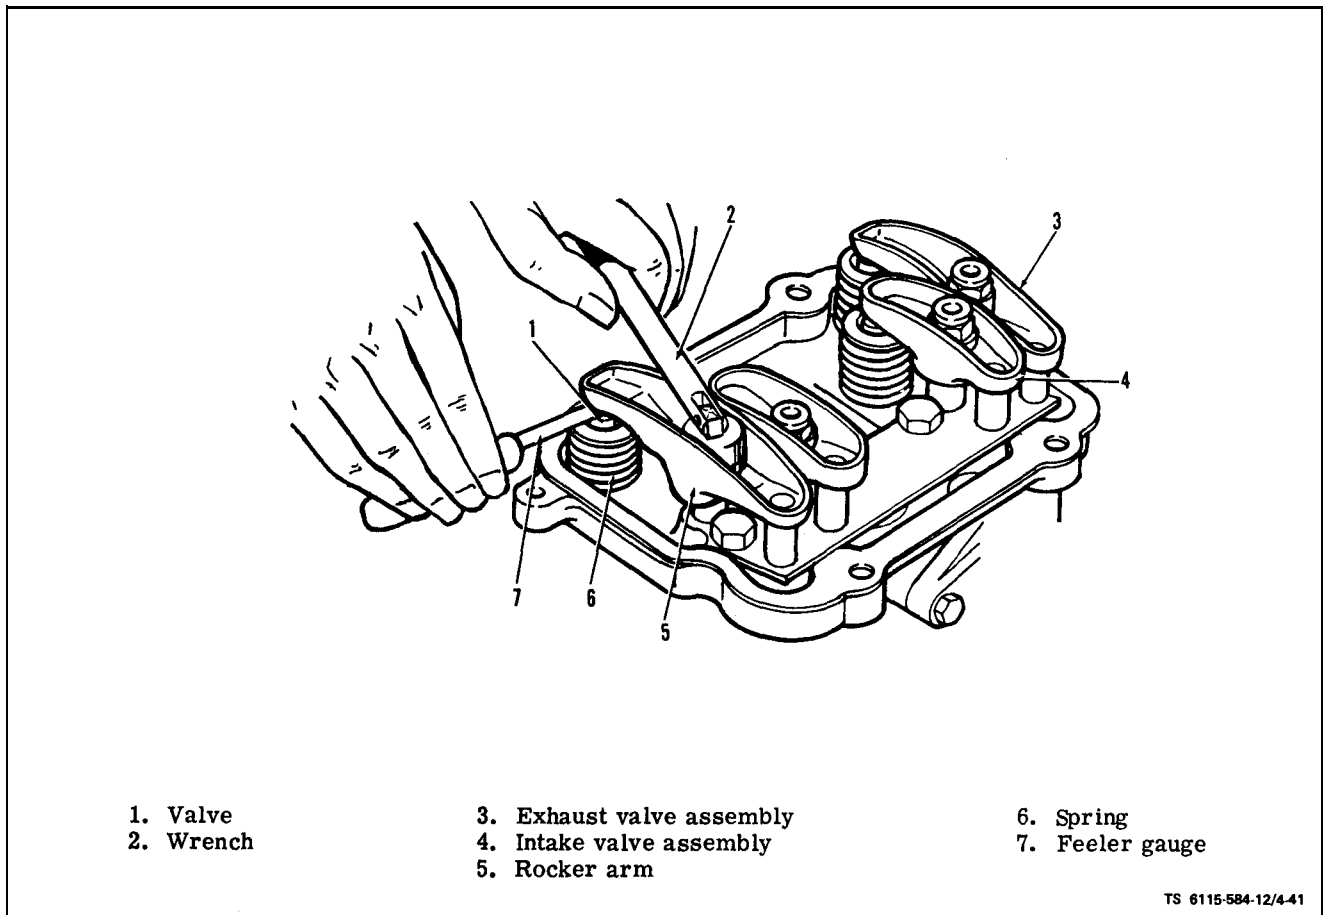

Figure 4-41. Checking and Adjusting Rocker Arm to Valve Clearance
a. Inspect (see figure 4-41). Inspect rocker arms for physical damage or excessive wear.
(1) Using 5/8" socket wrench and extension, turn the blower wheel clockwise until No. 1 cylinder is on its compression stroke, which follows the closing of its intake valve. See figure 4-41 for identification of intake valve assembly.
(2) Continue clockwise rotation until the letter "A" appears in the timing port on the side of the generator adapter. This puts No. 1 cylinder in the power stroke with both valves closed.
(3) By using a feeler gauge, check the clearance between the rocker arm and the valve stem cap. See figure 4-41. Increase or reduce the clearance until the proper gap is established, adjusting with the locknut which secures the rocker arm to the cylinder